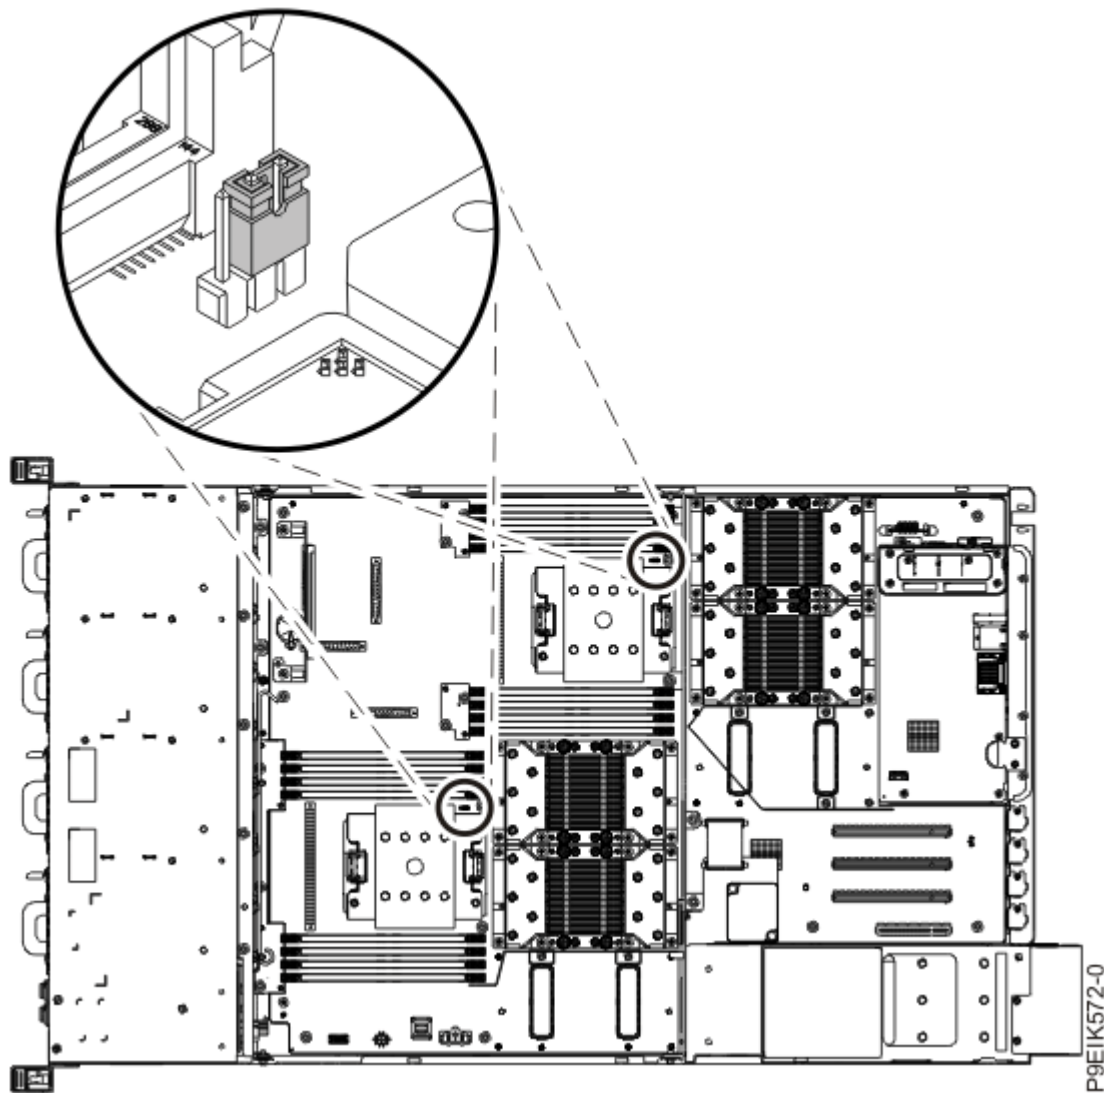

Figure 23. System processor jumper positions
5. Install the system processor jumpers on the system backplane as shown in Figure 23 on page 38.